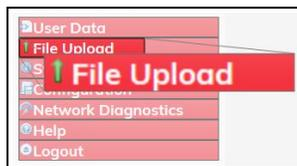

Figure 109: File Upload link
4. On the **Menu** list, click the **File Upload** link. Figure 109